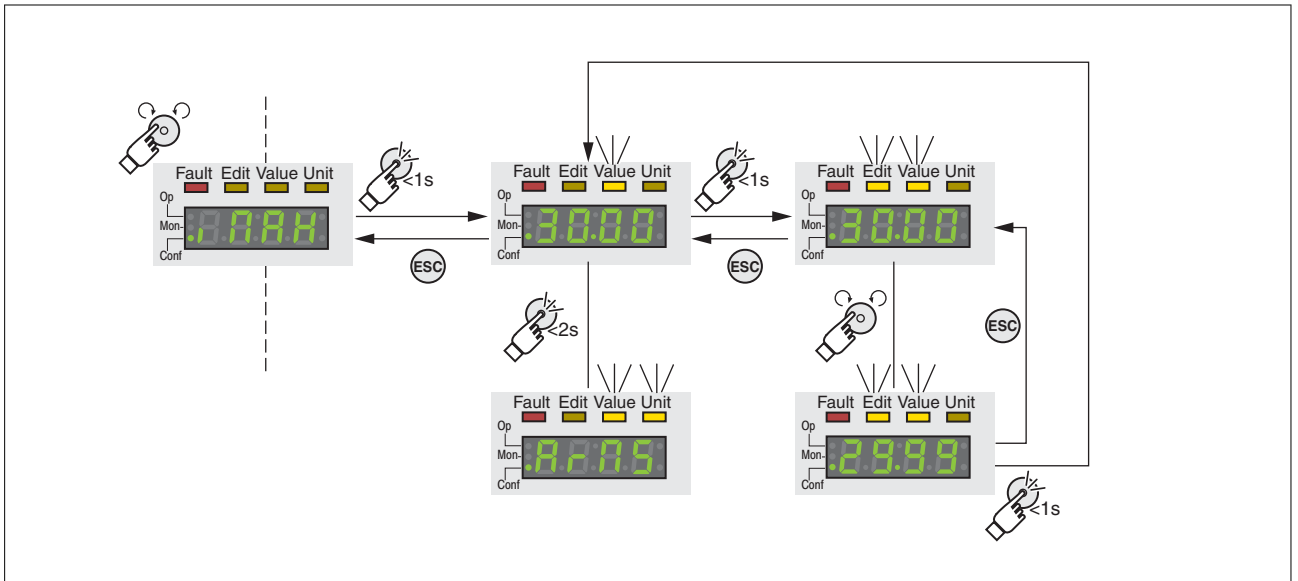

Figure 36: Integrated HMI, example of setting a parameter
- The parameter i_{RM} (iMax) is shown on the 7-segment display, see *Figure 36*.